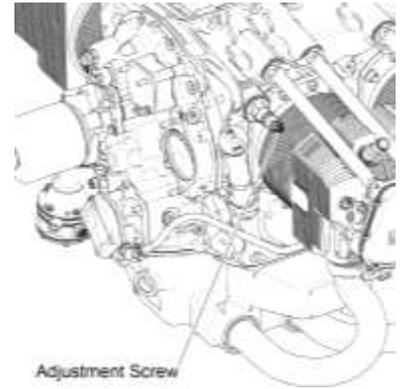

Figure 1
NOTICE: There is an adjustment screw (Figure 1) on the oil pressure relief valve housing. Rotation of this screw either increases or decreases the oil pressure to keep it within the specified operational limits in Appendix A of the *L1O-360-B1G6 Engine Installation and Operation Manual*.
- To **increase** oil pressure, turn the pressure adjustment screw on the oil pressure relief valve **clockwise** (Figure 1).